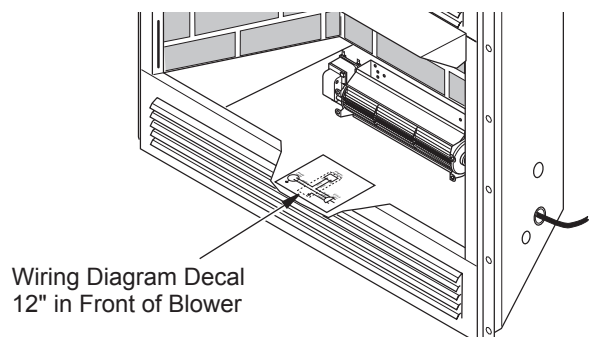

Figure 27 - Location of Wiring Diagram Decal (Model May Vary From Illustration)
10. Peel off the backing paper and stick the supplied wiring diagram decal on the firebox bottom approximately 12" in front of the blower (see Figure 27).
11. Peel off the backing paper and stick the supplied wiring diagram decal on the firebox bottom approximately 12" in front of the blower (see Figure 27, page 15).